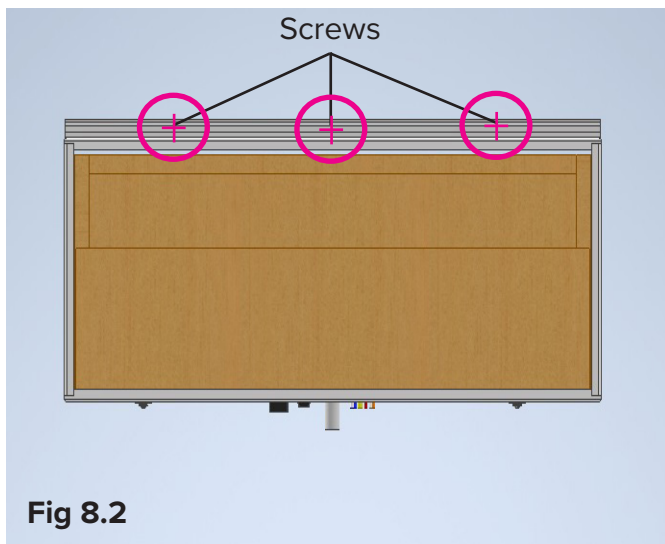

Fig 8.2
2. Secure the "J" Channel with three screws into each stud (Fig 8.2).